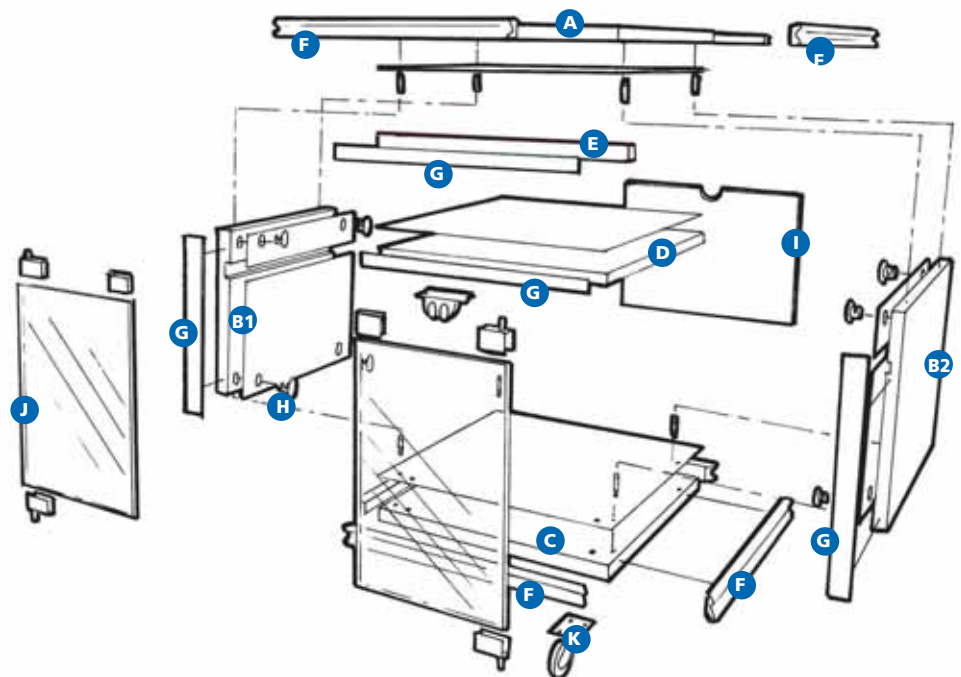

Figure 1
The top, bottom, shelf, and sides of the Entertainment Stand are all constructed of $\frac{3}{4}$ " material with $\frac{1}{4}$ " black melamine laminate applied to one surface (see Figure 1). On the completed unit, the top and sides of the unit will have a visible "inside" surface of black laminate and a visible "outside" surface of cherry. These parts are made using $\frac{3}{4}$ " cherry plywood with a laminate of $\frac{1}{4}$ " black melamine fiberboard on the inside surface. The underside of the shelf and the bottom of the unit will not typically be visible during use of the Entertainment Stand. An inexpensive $\frac{3}{4}$ " material — such as MDF — could be used instead of cherry plywood in making parts C and D.
11. Cut 1/4" melamine fiberboard to size for the back of the unit (J). We recommend also cutting a 3" diameter half-circle out of the top center and bottom center of the back for cords and cables to pass through.
12. Mark the correct location on parts A and C for the inside edge of parts B1 and B2. Following the Minifix package instructions, install Minifix fittings (Rockler Part # 22161) connecting bolts in parts A and C, and locking cams in parts B1 and B2 (see Figure 1). **NOTE:** We strongly recommend using the Minifix JIG IT® Template (figure 3) to position and drill holes for the Minifix hardware on parts B1 and B2. You will also need an 8mm Metric Brad Point (Rockler # 28516) with an 8mm stop collar (Rockler # 93237) and a 15mm Forstner Bit (Rockler # 21249) with a 10mm stop collar (Rockler # 93253) to drill holes for the Minifix hardware.
13. Begin assembling the unit by attaching the sides (B1 and B2) to the top (A).
Step 12 in more detail: To correctly install the Minifix hardware, you will need to mark the position where the inside edge of parts B1 and B2 meet the top and bottom of the unit (A and C). Since the length of the brace (E) is equal to the distance that should be maintained between the inside surface of parts B1 and B2 at all points, it can be used as a reference when marking off the correct position for the Minifix hardware on the top and bottom of the unit.